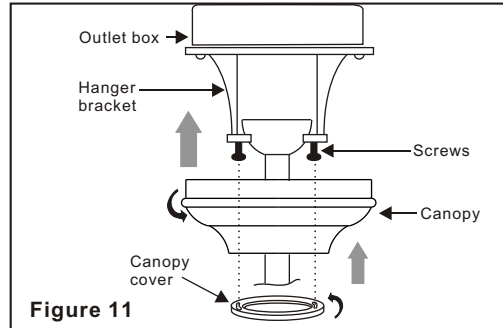

Figure 11
Step 2. Slide the canopy up to ceiling and over the 2 screws on the hanger bracket. Rotate canopy clockwise. Next, while holding the canopy with one hand, slide the canopy cover over the screws and rotate clockwise until tight. **Note:** adjust the canopy screws as necessary until the canopy and canopy cover are snug. (Fig. 11)